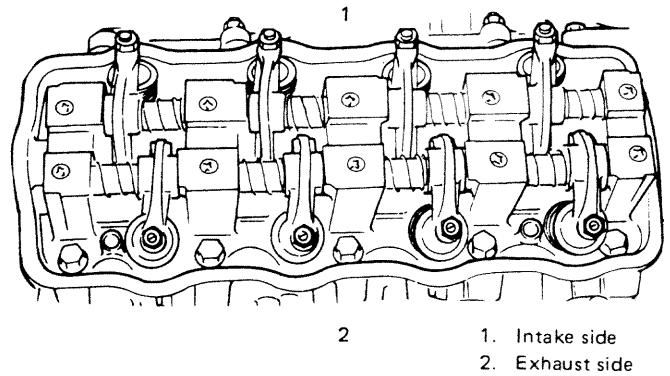

Fig. 3-6-37
- 3) After installing rocker arms, springs, and rocker arm shafts as shown in Fig. 3-6-37, tighten rocker arm shaft screws to specified torque.